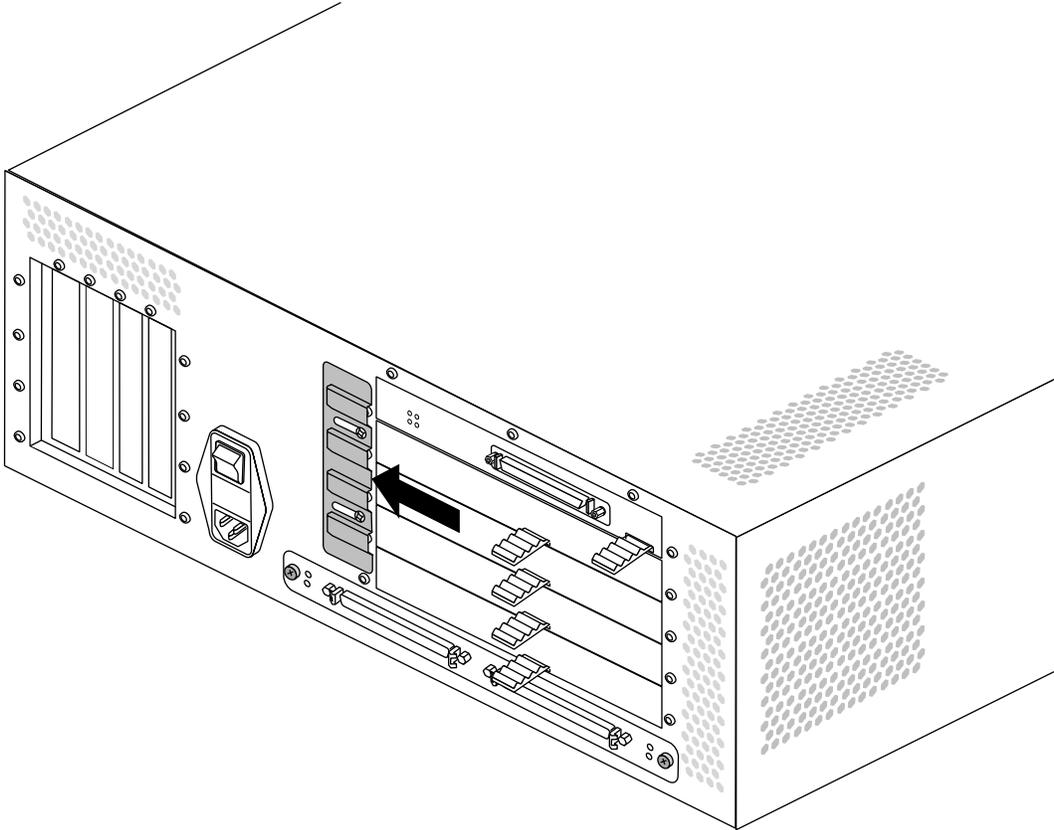

Figure 2-21 Sliding the XIO Board Retaining Plate Aside
- 3. Slide the retaining plate towards the power switch so that it no longer overlaps the XIO slots, as shown in Figure 2-21.